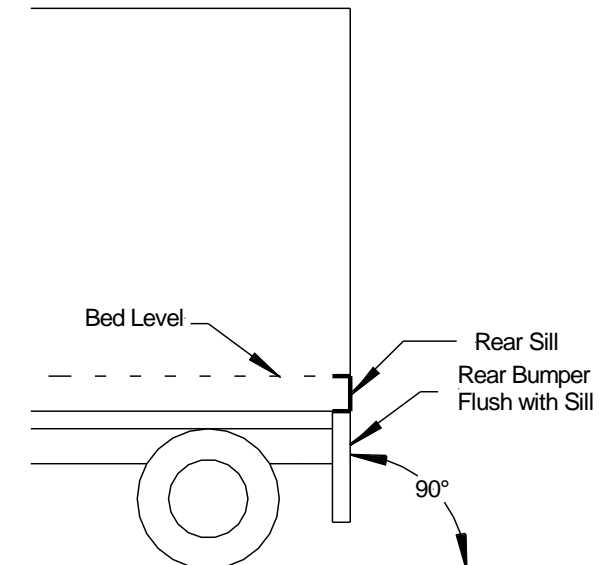

Fig. 2
2. Remove Rear Protrusions: Be certain that the under ride bumper, trailer hitch, or other auxiliary equipment do not extend rearward of the rear sill. Use the following illustrations as a guide. A more detailed explanation can be found in the following sections. **Fig. 2**.